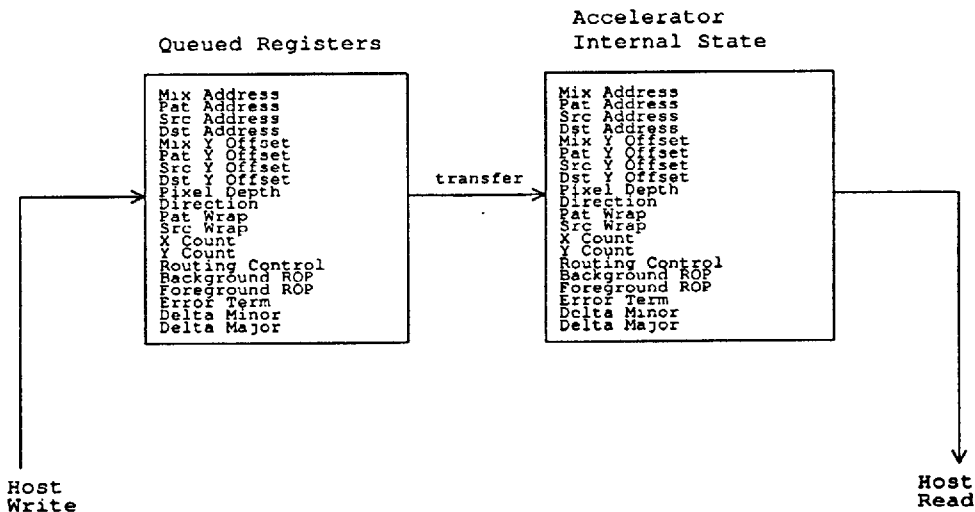

Figure 2.12-2 ET4000/W32p Queued Registers and ACL Internal State
1. 4/11/94 - Figure 2.12-2 ET4000/W32p Queued Registers and ACL Internal State found on page 30 is incorrect. The correct figure appears below.